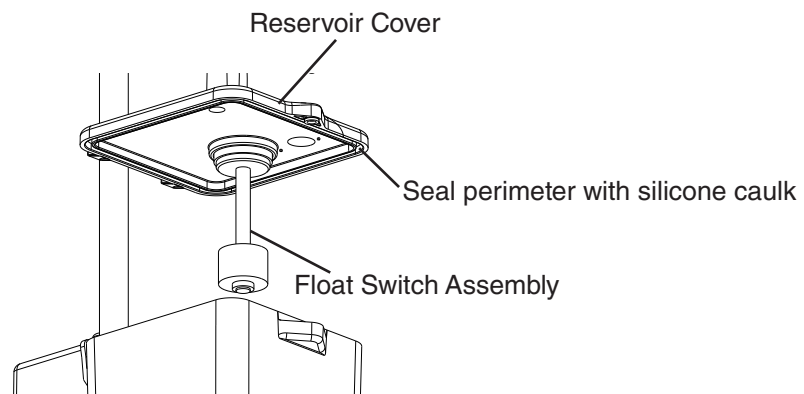

Fig. 8
- 4) Remove the reservoir cover from DP assembly. See Fig. 8.